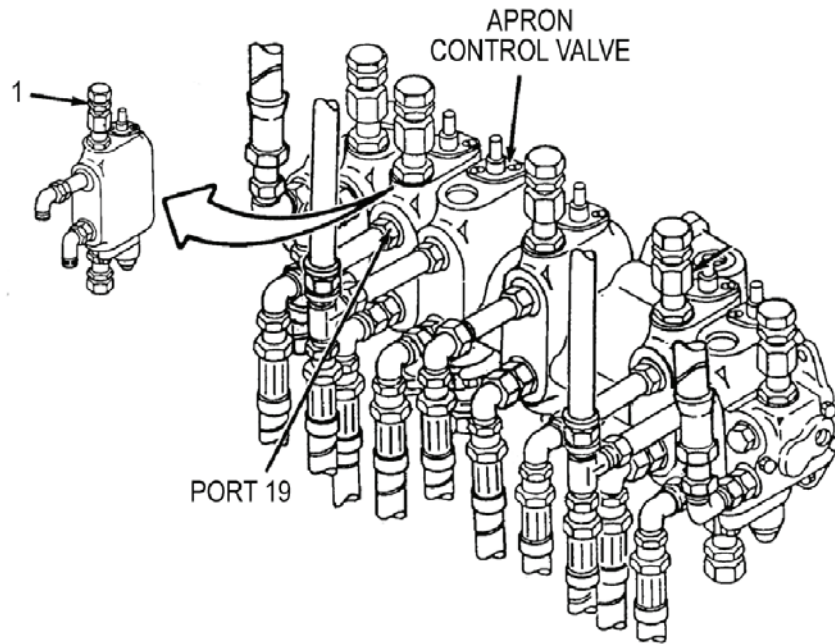
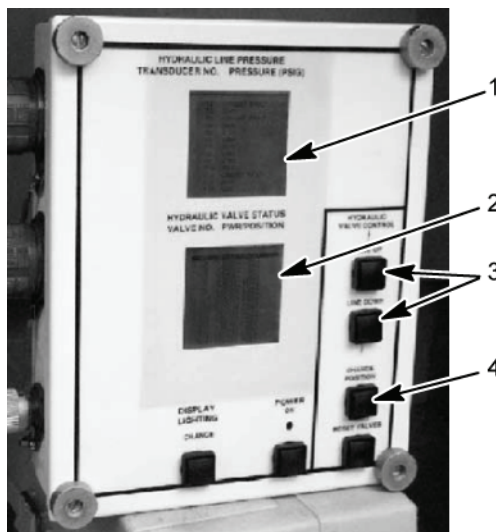

Figure 9. Apron Control Valve
Figure 10. HDC Control Box
- When transducer T-1 hydraulic pressure on the HDC display (Figure 10, item 1) indicates 3,500 psi (24,131 kPa); tighten jam nut (Figure 9, item 1).
- Manually open ejector inhibit ball valve V23 (Figure 11, item 1) on the DCV bank. Using LINE UP or LINE DOWN button (Figure 10, item 3), select V1 on the HDC display (Figure 10, item 2). Open V1 on the HDC display (Figure 10, item 2) by selecting the CHANGE POSITION button (Figure 10, item 4) on the HDC control box. Select V17 on the HDC display (Figure 10, item 2). Open V17 on the HDC display (Figure 10, item 2) by selecting the CHANGE POSITION button (Figure 10, item 4) on the HDC control box.